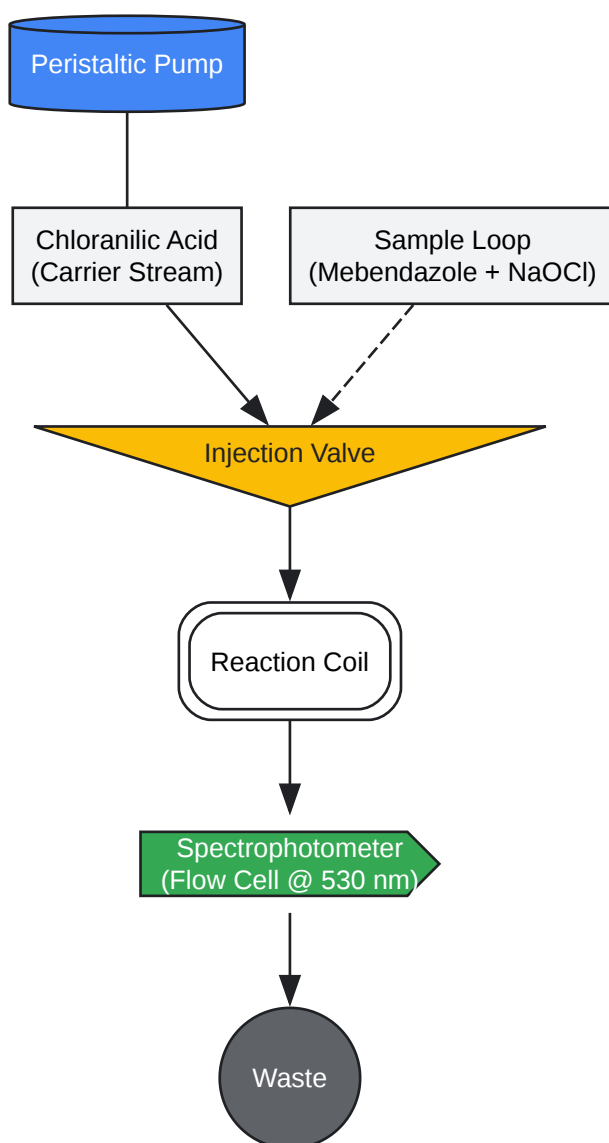

Fig. 2: FIA Manifold for Indirect Mebendazole Analysis
- System Setup: Assemble the FIA manifold as shown in Figure 2. Use the 2.0 mM CAA solution as the carrier stream, pumping it continuously through the system.